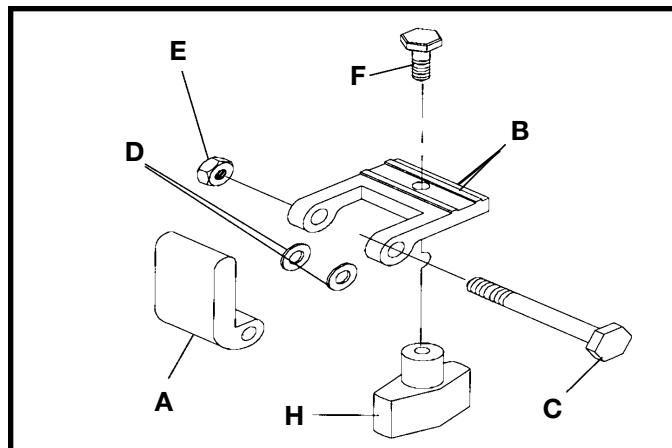

Fig. 64
1. The Unifence Flip Stop Fig. 64 can be easily assembled by inserting flip stop (A) into fence slide stop (B) which is held in place by inserting (C) 1/4-20 x 2 hex head bolt (C), fiber washers (D) and tightening hex nut (E). Make sure fiber washers are placed on both sides of flip stop (A) when assembled. Do not over tighten hex nut (E) as the flip stop must move freely.